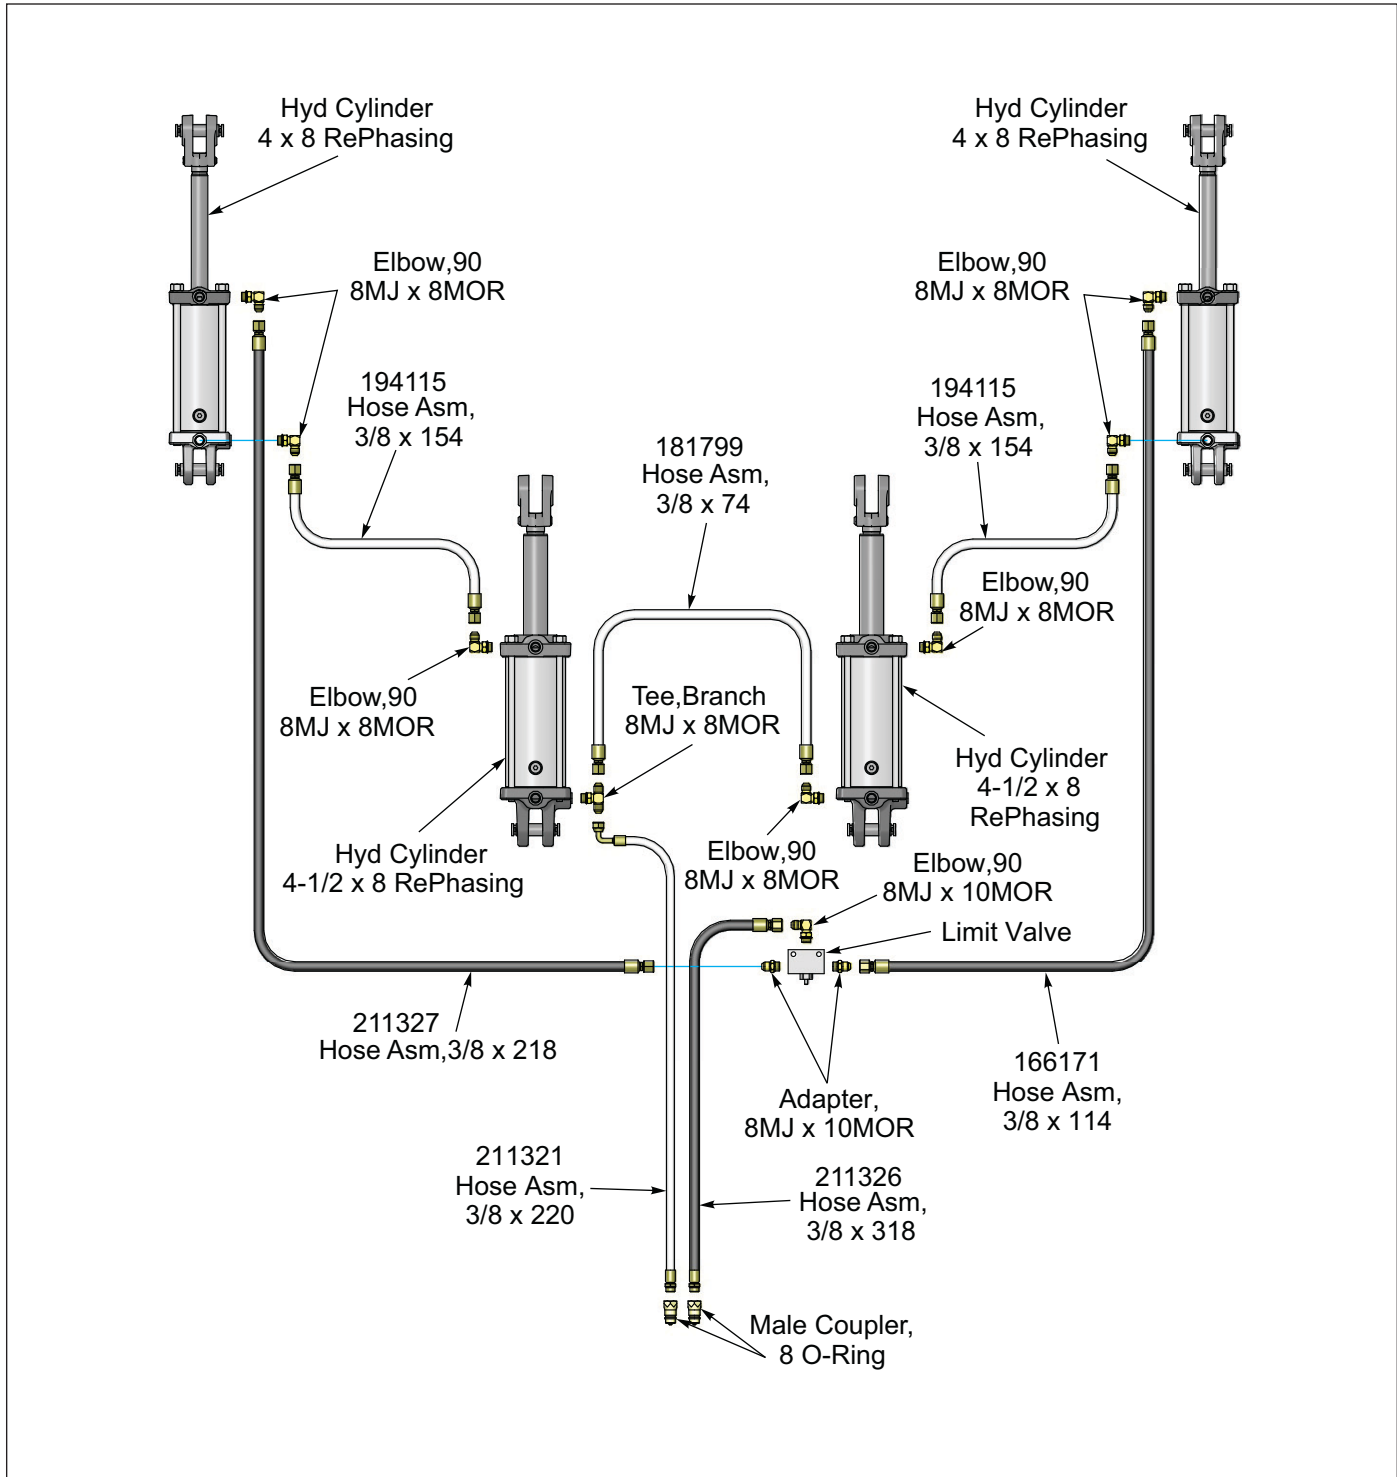

Figure 2-16: Simplified Hydraulic Tooth Control Schematic
1. Tooth Control Circuit - Black - **See Figures 2-16, 2-17 and 2-18.** The Tooth Control Circuit with shanks raised requires approximately 2.3 gallons of hydraulic oil, and with shanks lowered requires 2.6 gallons of hydraulic oil.
1. Install Limit Valve fittings. **See Figures 2-16 and 2-18.**
3. Install fittings and hoses for Tooth Control Hydraulic Cylinders. **See Figures 2-16, 2-17 and 2-18.** On each side, wrap both hoses near the hinge pin area with 26 inch hose wrap. Wing hoses can be set aside until time of wing assembly.